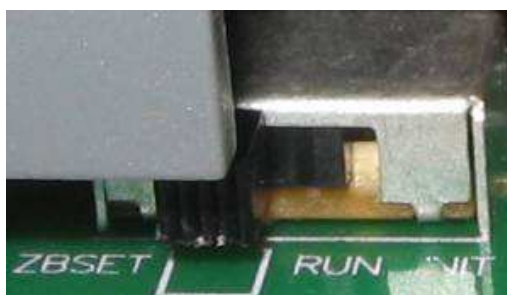
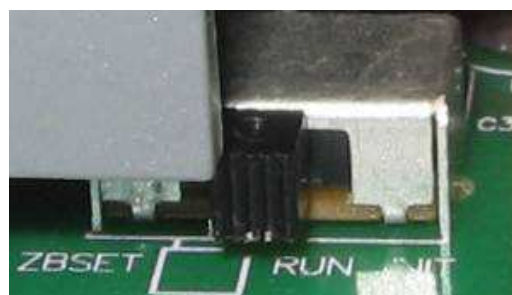

Figure 1
Figure 2
3.1. When you configure the ZB-257x, you need to turn the switch to the **ZBSET**, and then make its power on (**Figure 1**). After configuration is done, you need to turn the switch to the **RUN**, and make the power on again (**Figure 2**).